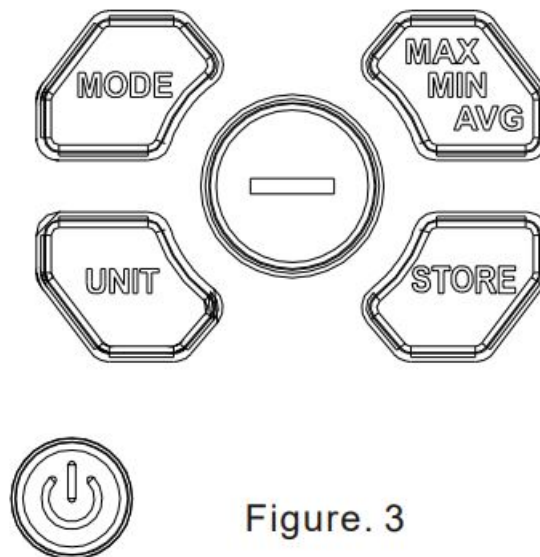

Figure. 3
- 7 VII. Buttons (Figure 3)
VII. Buttons (Figure 3)